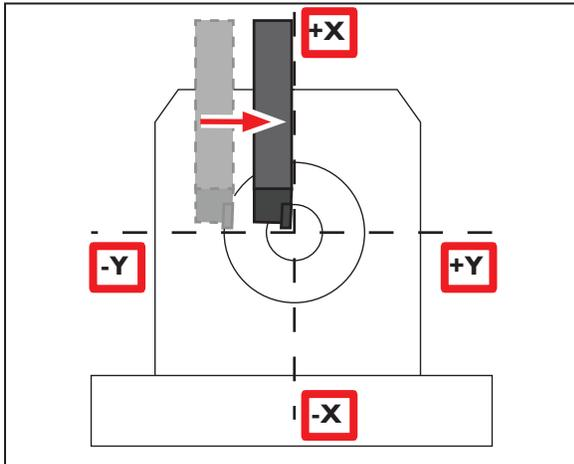
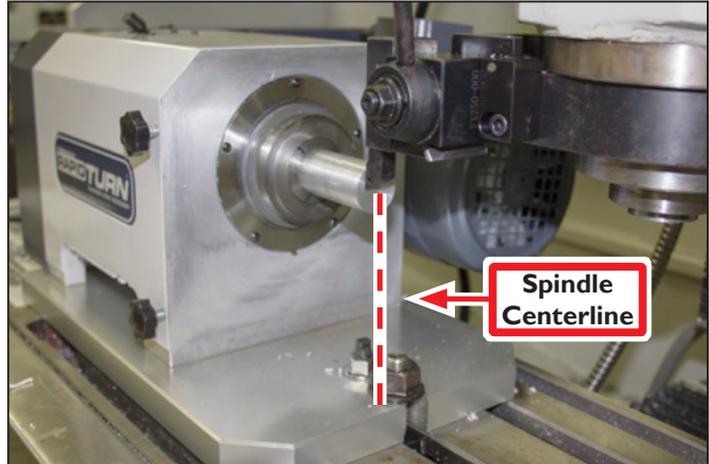
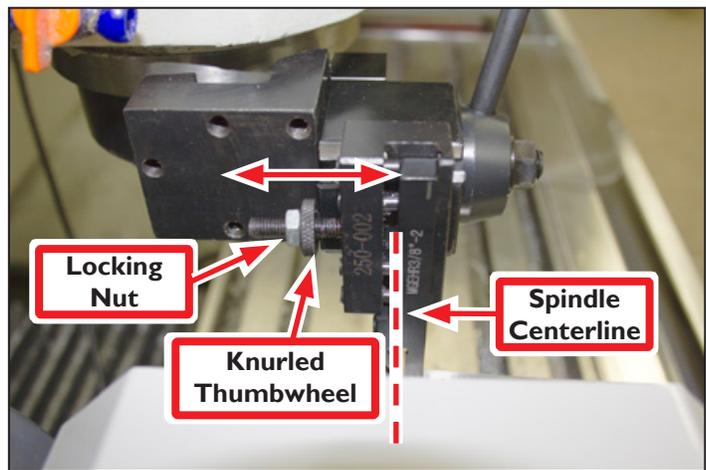

Figure 4.4
Figure 4.5
Figure 4.7
2. Jog machine until tool approaches workpiece; visually align tool's cutting tip with Spindle Centerline by jogging Y-axis (see **Figure 4.4** and **Figure 4.5**).
The Y-axis is used only for initial positioning of the machine and should not need to be adjusted after this. Use the Knurled Thumbwheel on tool holder to bring the cutting tip of subsequent tools to the same Spindle Centerline (see **Figure 4.7**); adjust until the tool is in alignment, as shown in **Figure 4.4**, and secure using Locking Nut (see **Figure 4.7**).